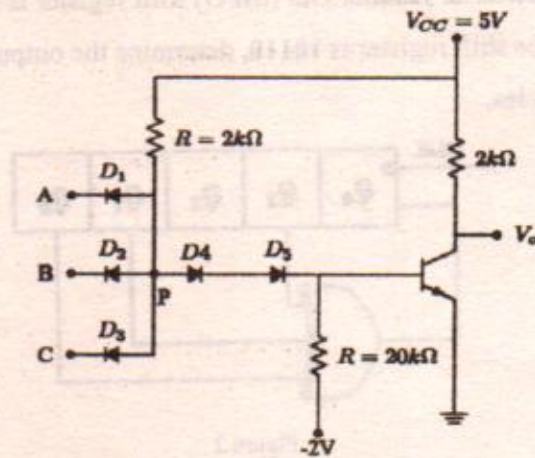

Figure 1
I. Identify the logic family and list two (02) disadvantages of the combinational digital circuit shown in Figure 1.
III. Considering the circuit shown in Figure 1, briefly explain why the diodes  $D_1$ ,  $D_2$ , and  $D_3$  become forward biased before the diodes  $D_4$  and  $D_5$  when any of the input signals are at a logic Low level.